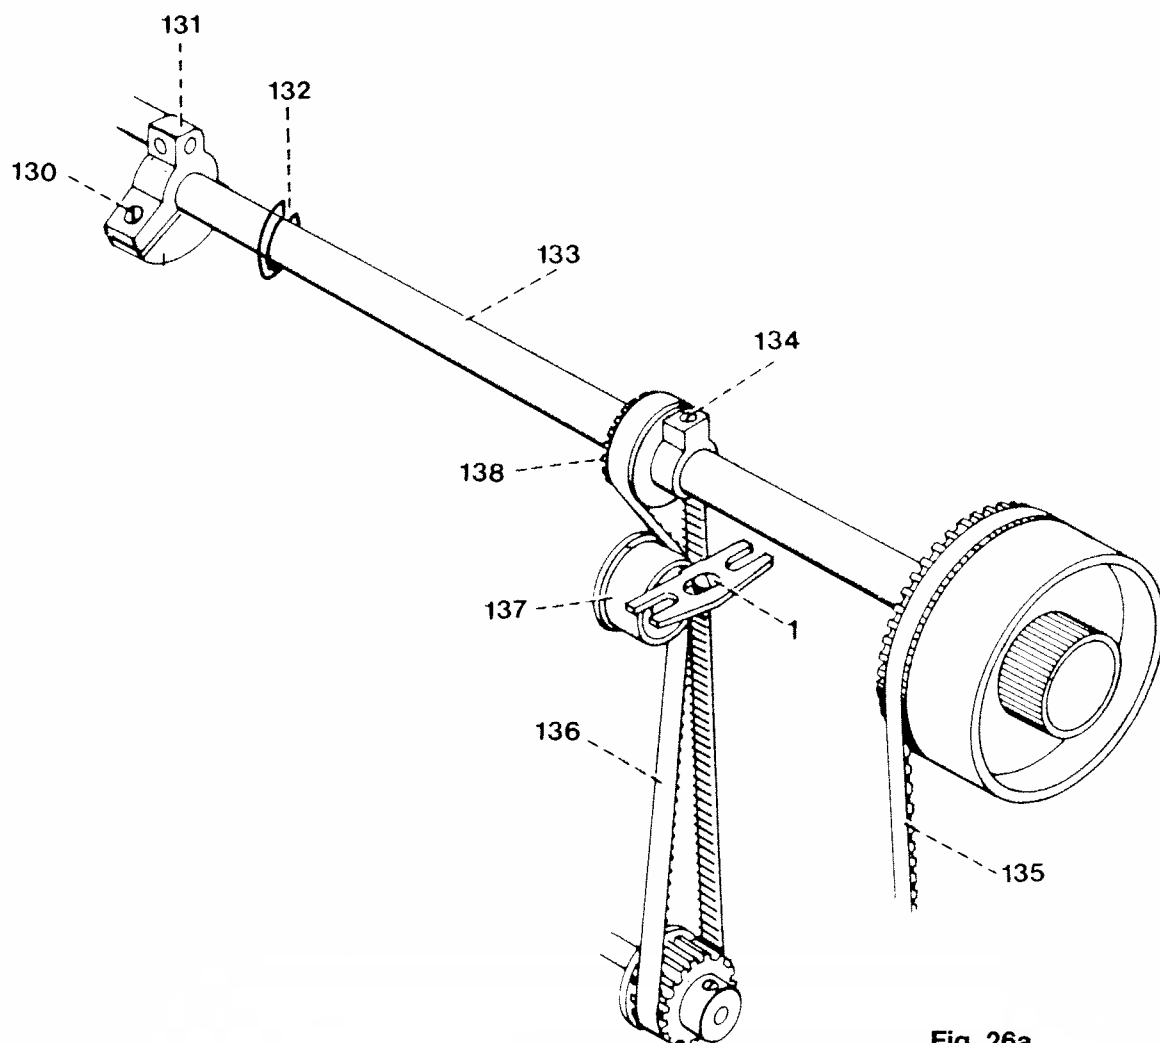

Fig. 26a
- Loosen screw 130 in the arm shaft crank 131 (Fig. 26a).